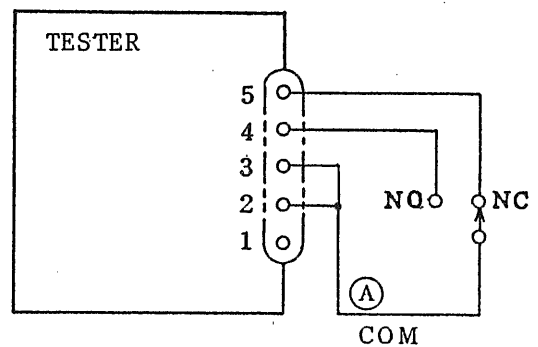

Figure 4.4
- (c) In the case of the setup shown in Figure 4.4, the test voltage is turned on when the switch is thrown to the NO position, and Tester is forcefully reset when the switch is returned to the NC position. (Special Test mode: NG ALARM OFF)